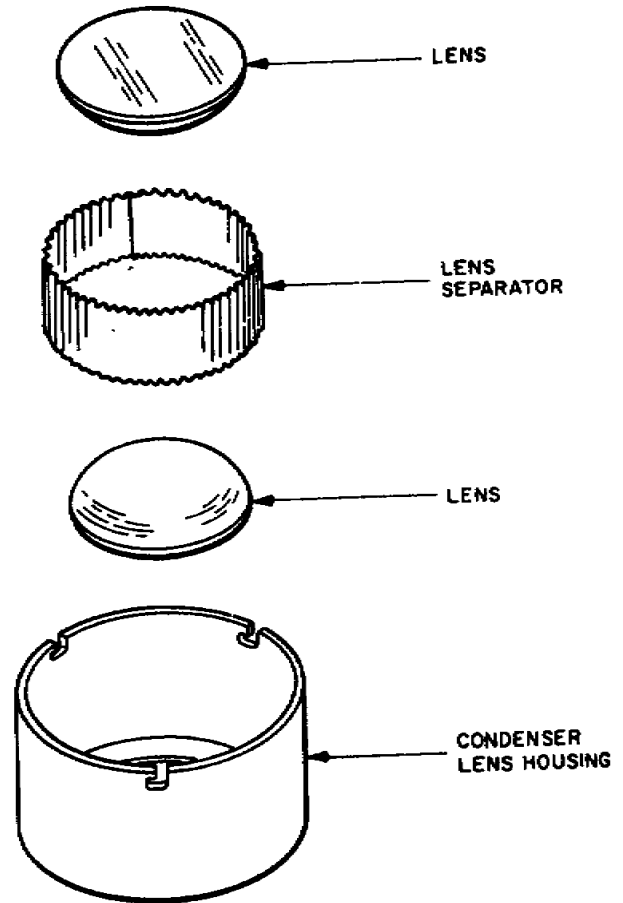

FIGURE 2-6. Condenser lens set, exploded view.
b. Condenser lens set (figure 2-6). The condenser lens set concentrates the light from the lamp house and distributes it uniformly over the negative. The condenser lens set consists of a pair of 6 1/2-inch diameter plano-convex lenses, each having a focal length of 9 inches. The lenses are mounted in a housing with a separator between them. The housing has three bayonet-type notches to permit assembly to the variable condenser lens housing where it is secured with knurled screws.